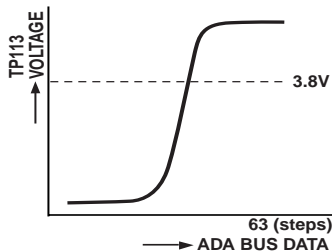

Figure 6. Voltage Change in ADA BUS data Adjustments
5. Select No. 005 ADA (APC Det. Adjust.) with ▲ or ▼ key. and adjust the data with + or – key for 3.8 ± 1.0 VDC. Voltage change in the ADA BUS data adjustments is shown in Figure 6.